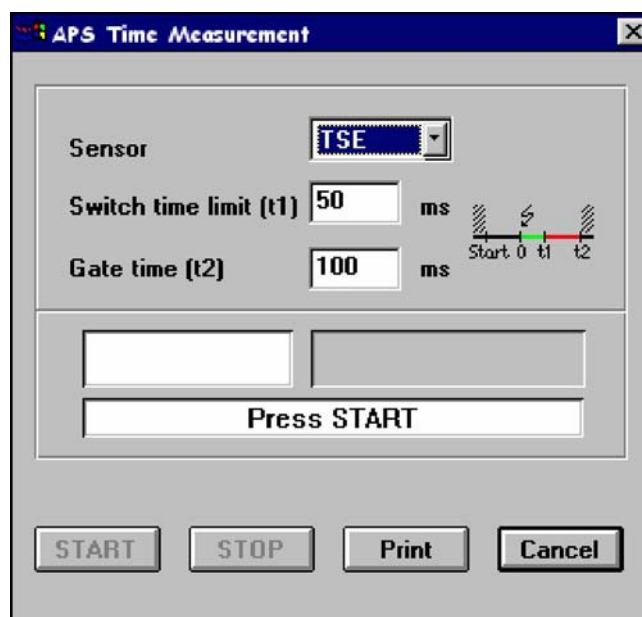

Figure 12 APS Time Measurement window
Step 2: To measure the actual APS, stop the measure you had started in Step 1 and click the **APS** icon in the Signal Structure toolbar. This opens the APS Time Measurement window shown in Figure 12. Now press **START** and immediately proceed to Step 3.